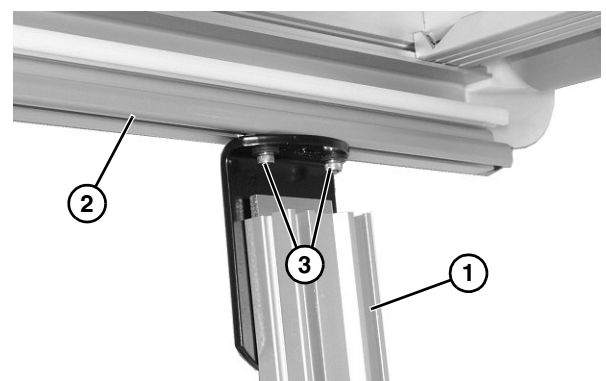

Figure 9
2. Attach stands (Figure 9, item 1) to the bottom of the conveyor frame (Figure 9, item 2). Tighten socket head screws (Figure 9, item 3), on each side, to secure in place.